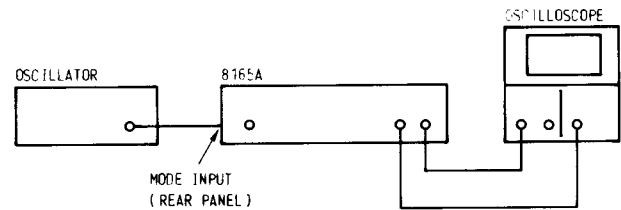

Figure 4-11. Test Setup for FM
1. Connect the equipment as shown in Figure 4-11.